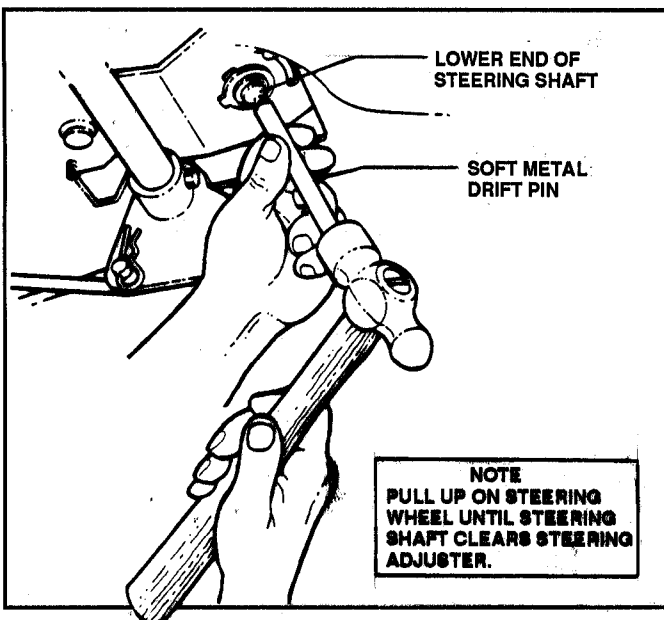

FIGURE 5.5
- (3) Using a soft metal drift pin and hammer, tap the lower end of steering shaft until it can be pulled clear of the steering adjuster. See Figure 5.5.